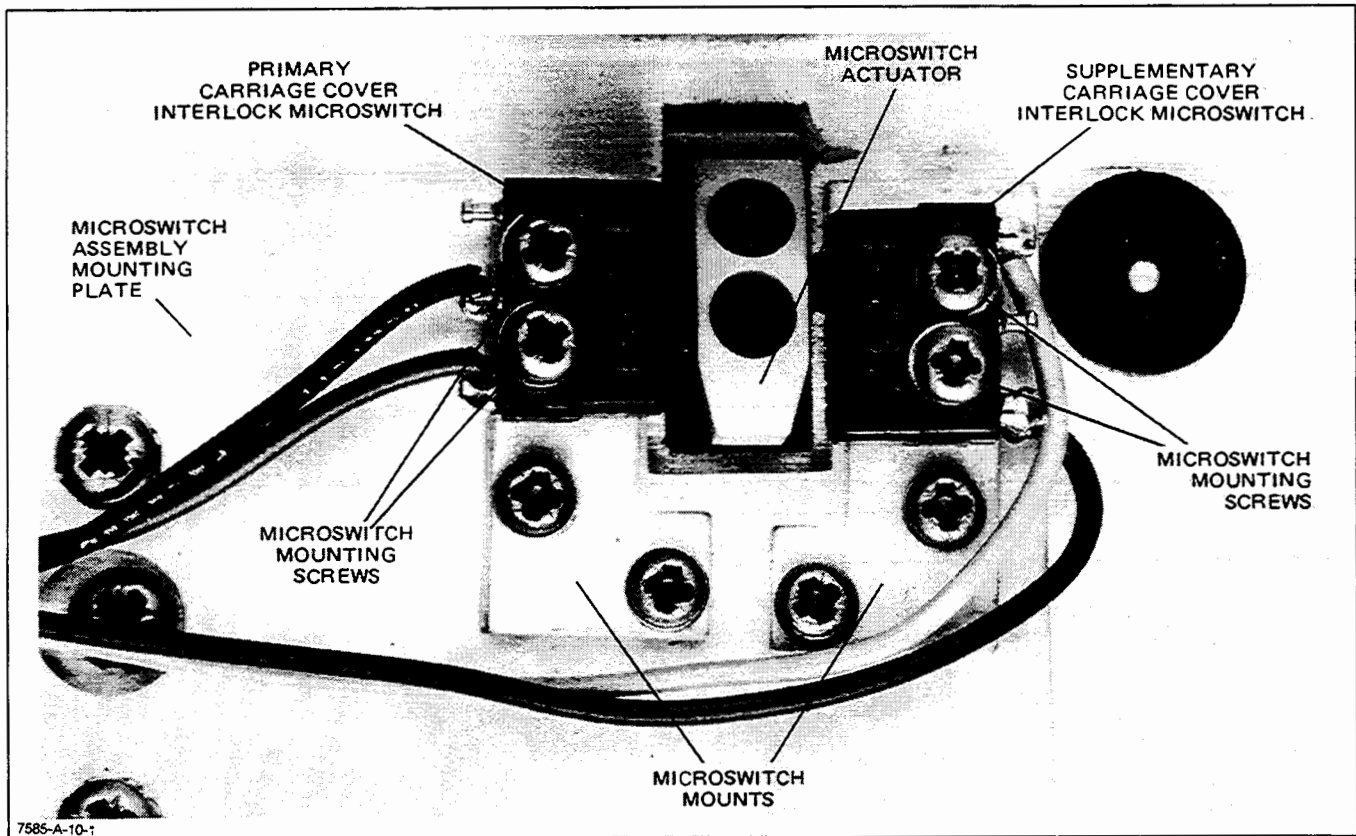

Figure 3-19. Carriage Cover Interlock Microswitches Adjustment
- d. Loosen the primary carriage cover interlock microswitch mounting screws. See Figure 3-19.
- e. Pivot the primary microswitch against the microswitch actuator until the switch closes. See Figure 3-19.